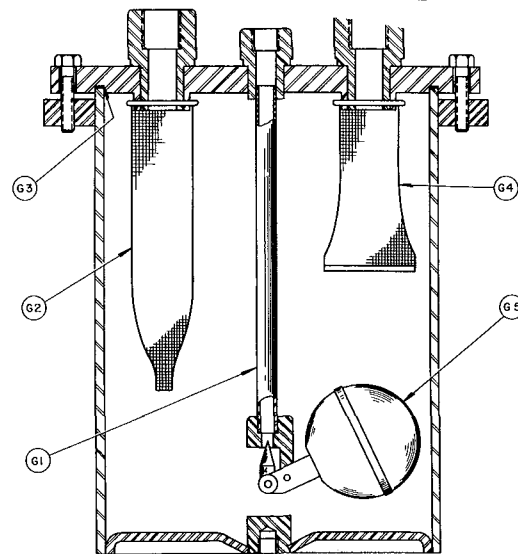

FIG. 5-8A - Cross Section Oil Separator
49. Oil Separator (See Fig. 5-8A)